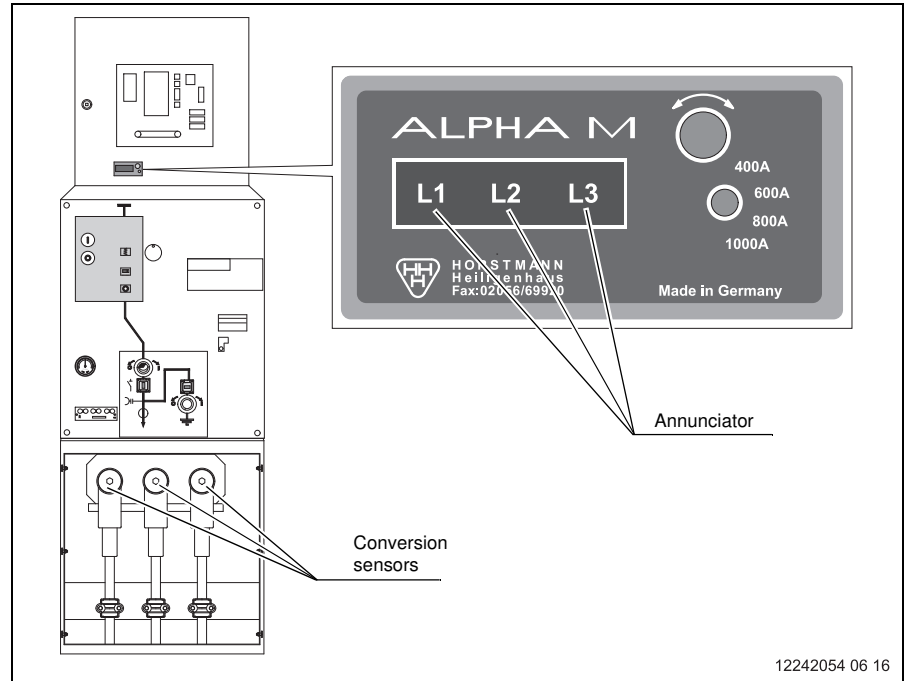

Fig. 30
**Short-circuit indicator for installation in front panel (Fig. 30).**